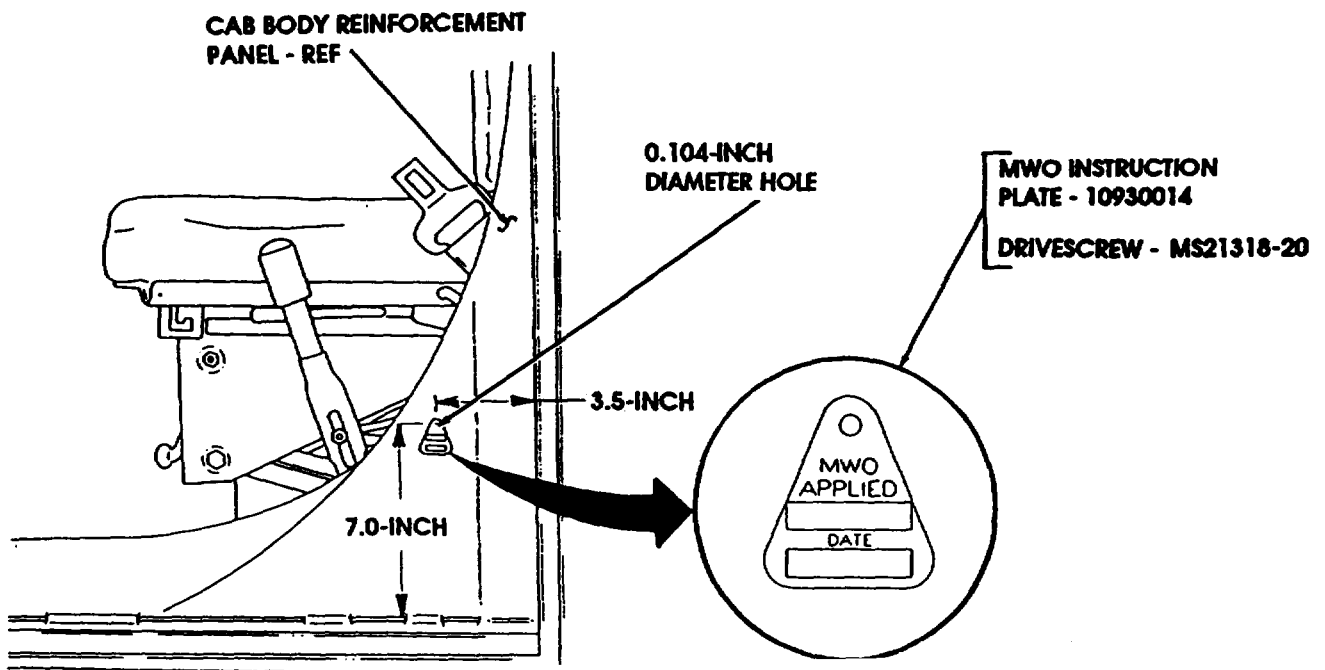

Figure 13
- (1) After the Accelerator Linkage Modification Kit is installed, mark MWO number "9-2320-272-20-8" and date applied in the MWO and date blocks on 10930014 MWO Instruction Plate as shown in figure 13.
- (2) Install MWO data plate by drilling a 0.104-inch diameter hole (#37 drill) in cab body reinforcement panel and secure with MS21318-20 drivescrew as shown in figure 13.
- (3) After drivescrew is installed, flatten or remove protruding excess drivescrew material from inside of cab body reinforcement panel.
**15. MATERIAL CHANGE (MC) NUMBER.**